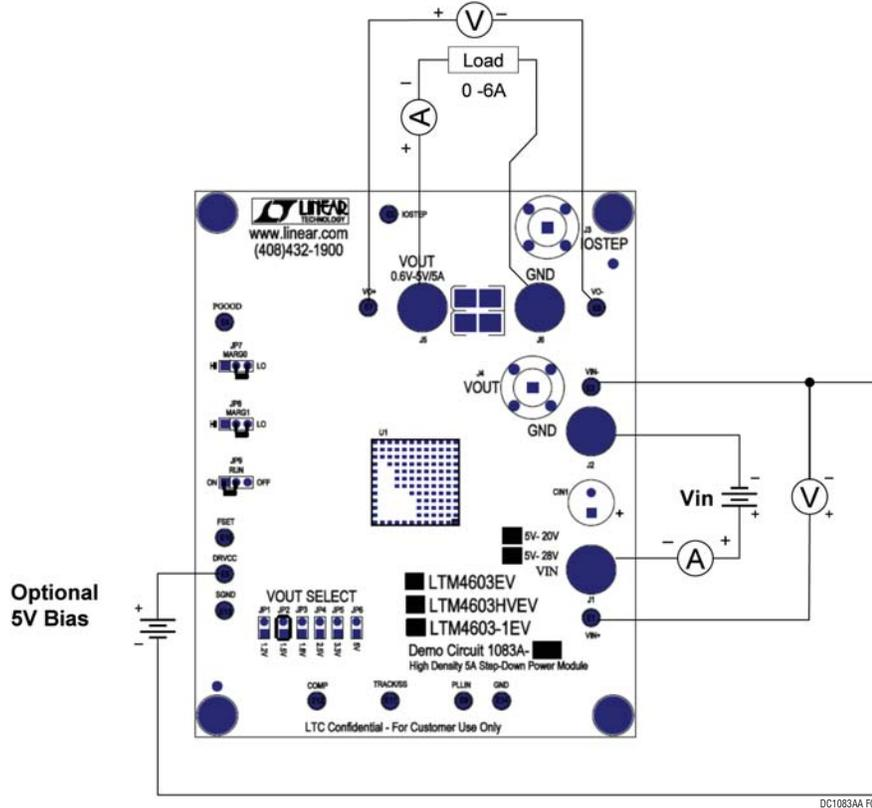

Figure 1. Test Setup of DC1083A-A (DRV_{CC} Bias Supply is Optional)
Demonstration circuit DC1083A-A is an easy way to evaluate the performance of the LTM4603EV. Please refer to Figure 1 for proper measurement equipment setup and follow the procedure below:
2. With power off, preset the load to 0A and V_{IN} supply to be less than 20V. Connect the input power supply, load and meters as shown in Figure 1.